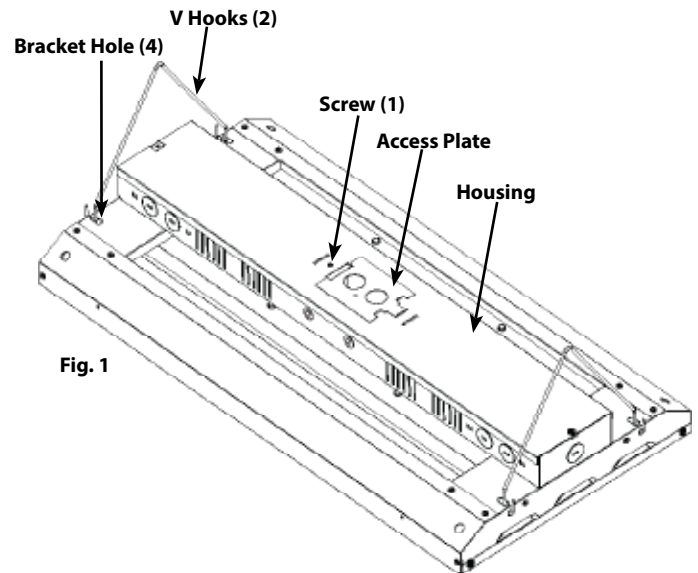

Fig. 1
1. **V Hooks (2)** and **Chain** are provided for mounting. Secure **V Hooks** through **Bracket Hole** at back of **Housing** as shown (Fig. 1).
4. Reinstall **Access Plate** and secure with supplied **Screw (1)**.